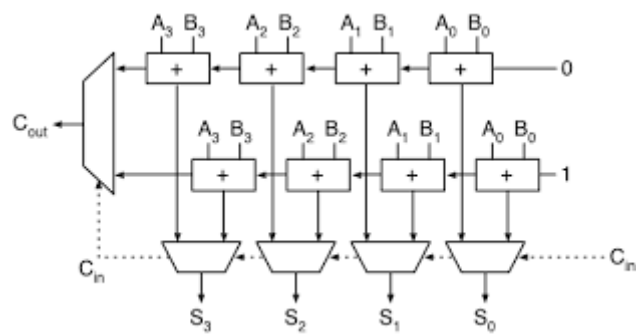

Figure 5 Generic Carry Select Adder 4-bit Slice
7. Using gates from your standard cell library capture the schematic of a 16-bit Carry Select Adder (ADD16) in a new cell at one hierarchical level (library cell **FML\_ADD16**). A carry select adder **4-bit slice** is shown in Figure 5. Your 16-bit Carry Select Adder will be designed using **FOUR SLICES**. Place all cells at one hierarchical level, and auto-route following the steps in EDA Tutorial 2. A sample testbench is provided, see **ADD16\_TESTBENCH.pdf**